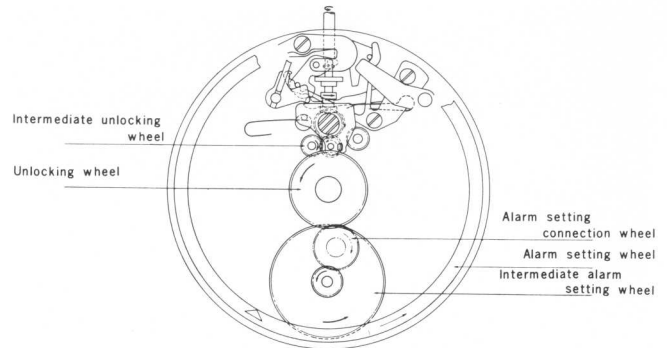
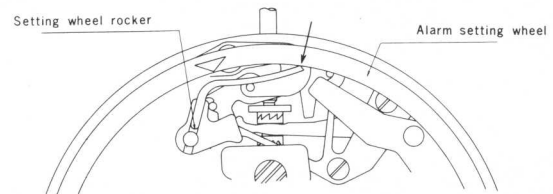

Fig. 13
Fig. 14
**Bell time setting (Fig. 13)**
When the crown is pulled out to the second position, the yoke is pushed by the setting lever so that the clutch wheel and the setting wheel are meshed with each other. Under this condition, the setting wheel lever complete is held in a position shown in Fig. 13 by means of the setting lever spring, and the intermediate setting wheel is engaged with the intermediate unlocking wheel. Therefore, by turning the crown, torque is transmitted in the sequence of the clutch wheel→setting wheel→intermediate setting wheel→intermediate unlocking wheel...turning the unlocking wheel. Subsequently, torque is further transmitted in the sequence of the unlocking wheel→alarm setting connection wheel→intermediate alarm setting wheel...turning the alarm setting wheel. Under this condition, bell timing can be accurately set. The alarm setting wheel, interlocking with the unlocking wheel, serves to indicate the bell ringing position on the dial. The spring attached to the setting wheel rocker functions to press the alarm setting wheel as shown in Fig. 14 when the crown is depressed on completion of setting the bell time, preventing the alarm setting wheel from moving through receiving mechanical shocks.